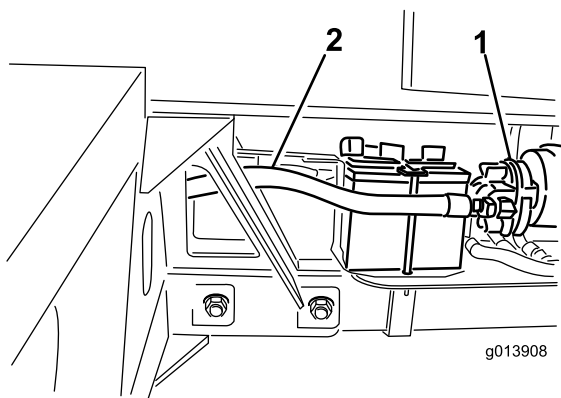

Figure 12
37. Connect hydraulic hose #4 to the suction side of the hydraulic pump (Figure 12).